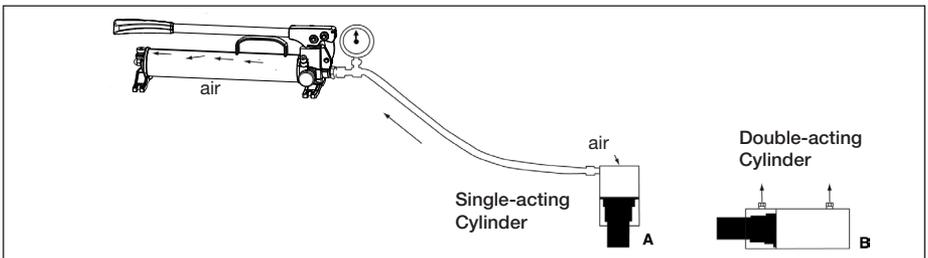

Figure 11, Air Removal
3. Position pump in the horizontal position at higher elevation than cylinder. See Figure 11.
2. Position pump in the horizontal position at higher elevation than cylinder. See Figure 11.